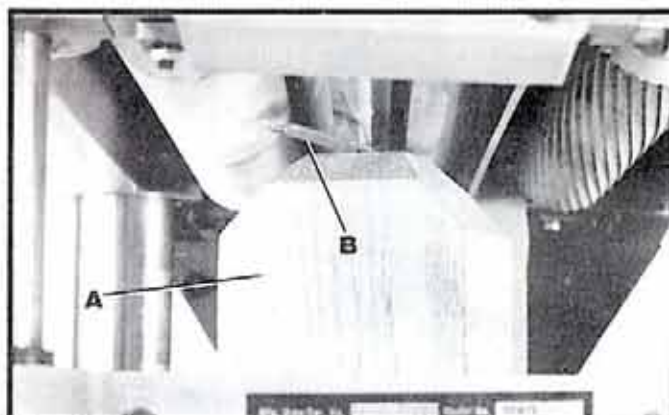

Fig. 35
3. Place the gage block (A) Fig. 35, on the table directly under the cutterhead as shown. Using a 0.020" feeler gage (B) placed on top of the gage block, raise or lower the head assembly until one of the knives just touches the feeler gage when the knife is at its lowest point. Then lock the head assembly in this position.